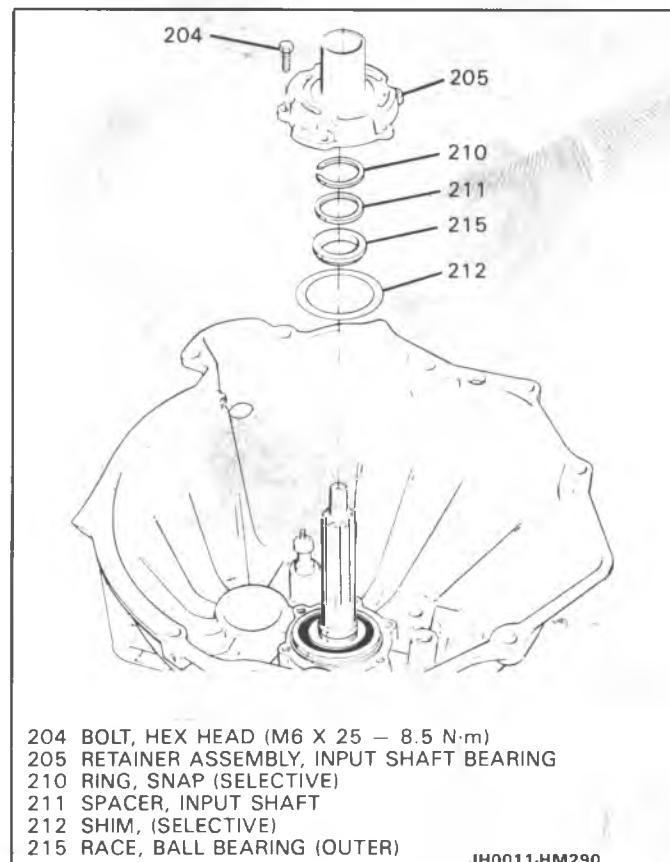

Figure 8 Removing Input Shaft Bearing Retainer Assembly
7. Six bolts (204) and input shaft bearing retainer assembly (205) (Figure 8).